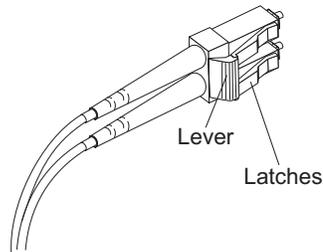

Figure 32. LC-LC fibre-channel cable lever and latches
1. On the end of the LC-LC cable that connects into the SFP module or host bus adapter, press down and hold the lever to release the latches, as shown in Figure 32.